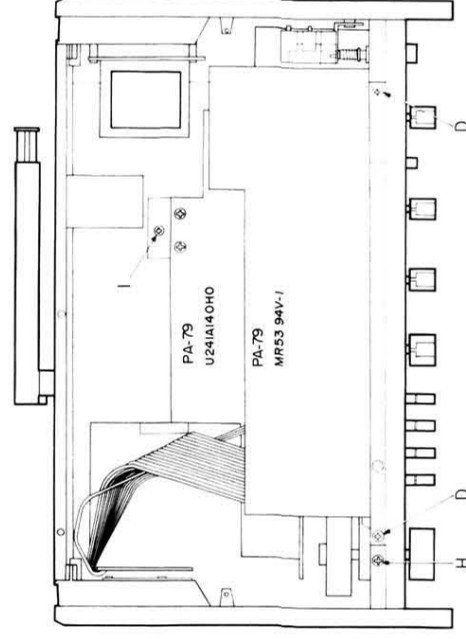

Fig. 4
- 2) Take out the two lower panel fixing screws indicated as D in Fig. 4.
- 4) Take off the two chassis-fixing screws (H and I in Fig. 4) of the tuner section.